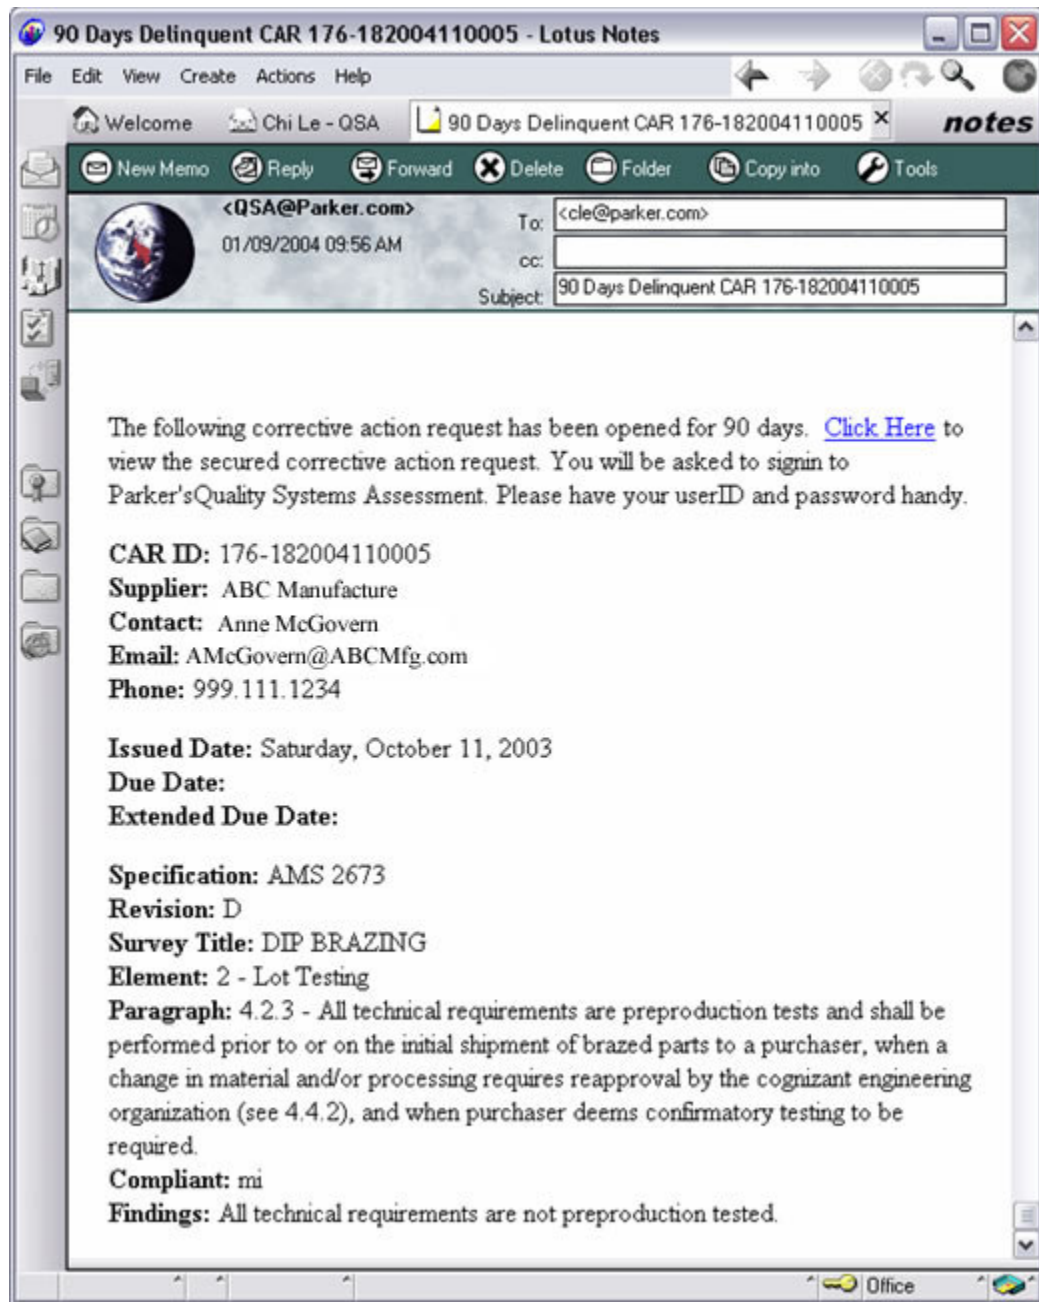

Figure 43 – Delinquent CAR Email Alert
- Click on the “Save” or “Run” button to extract the setup files onto your laptop. A popup form, called “WinZip Self-Extractor” will appear on your screen (figure 43).